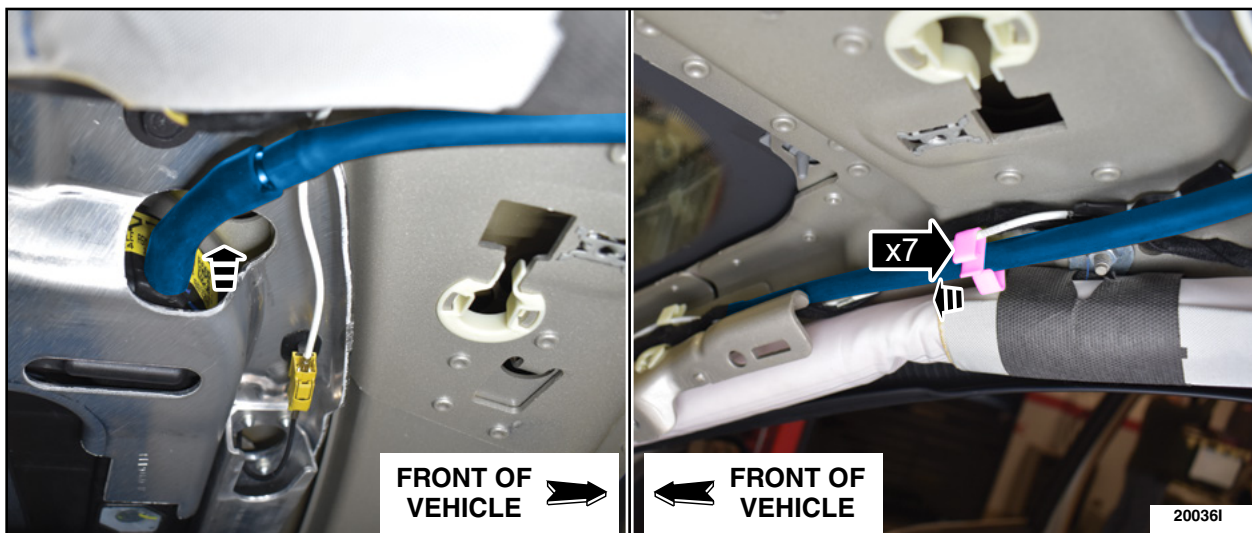

FIGURE 9
15. Remove the roof opening panel drain tube. See Figure 9.